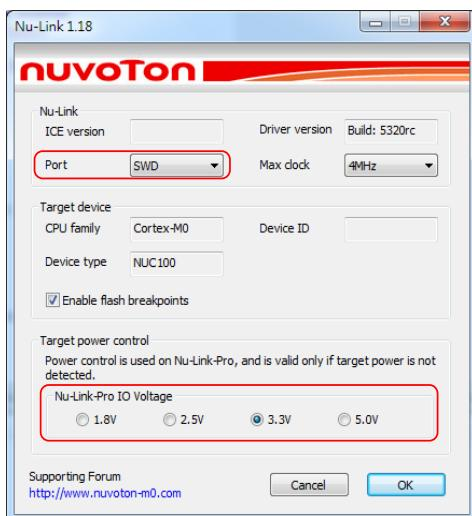

Figure 5.2-32 Specify the Port and Target I/O Voltage
- (8) Click **OK** to save the settings and return to the IAR EWARM main window.
- (9) Invoke **Nu-Link2-Pro** to open the **Nu-Link** form, select **SWD** as the Port, and specify the **Nu-Link2-Pro I/O Voltage** in the **Target power control** section (3.3V in this case), as shown in Figure 5.2-32.